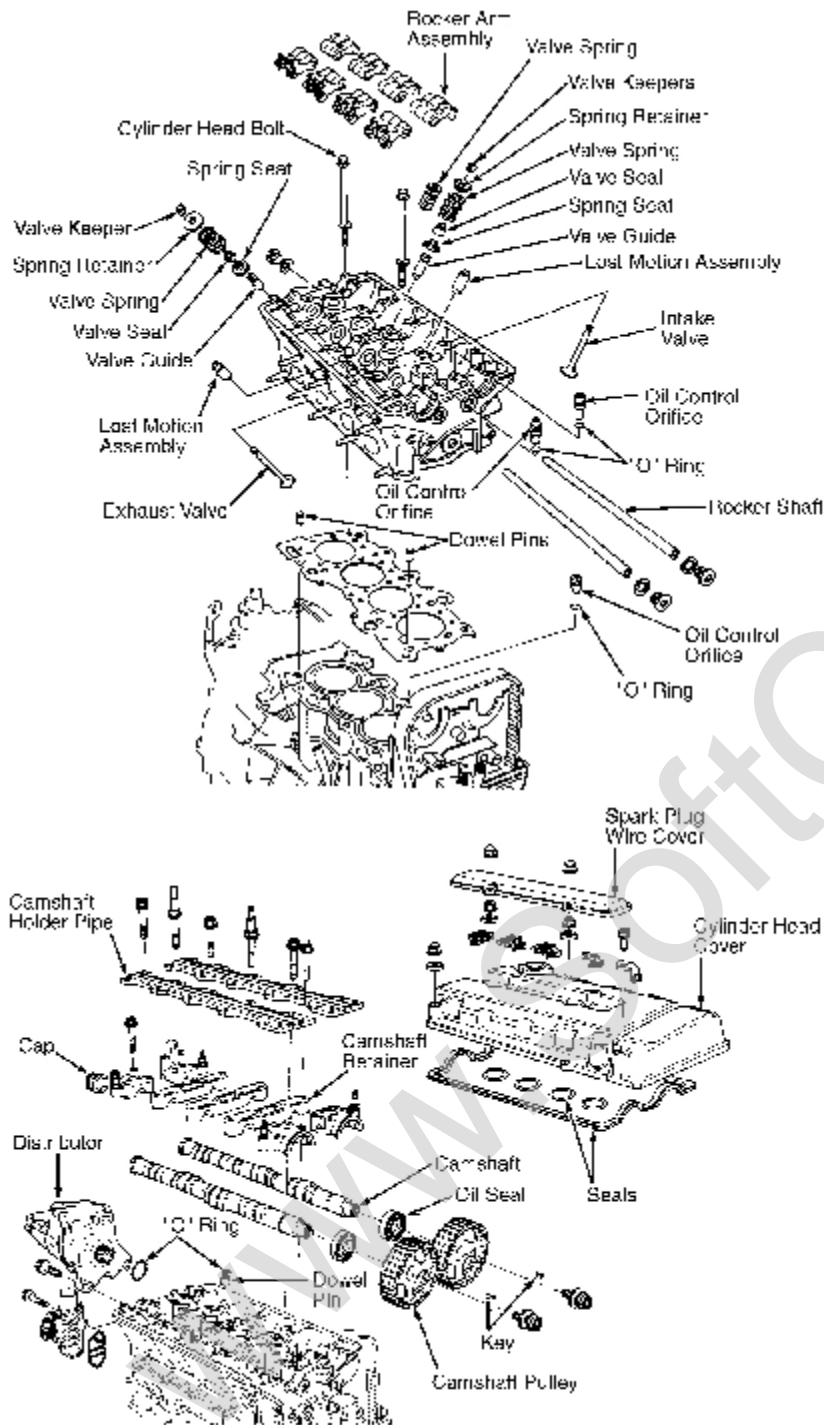

Fig. 8: Exploded View Of Cylinder Head, Camshaft & Rocker Arm Assemblies
3. Ensure cylinder head dowel pins, oil control jet, and "O" ring are installed in block. See **Fig. 8** .